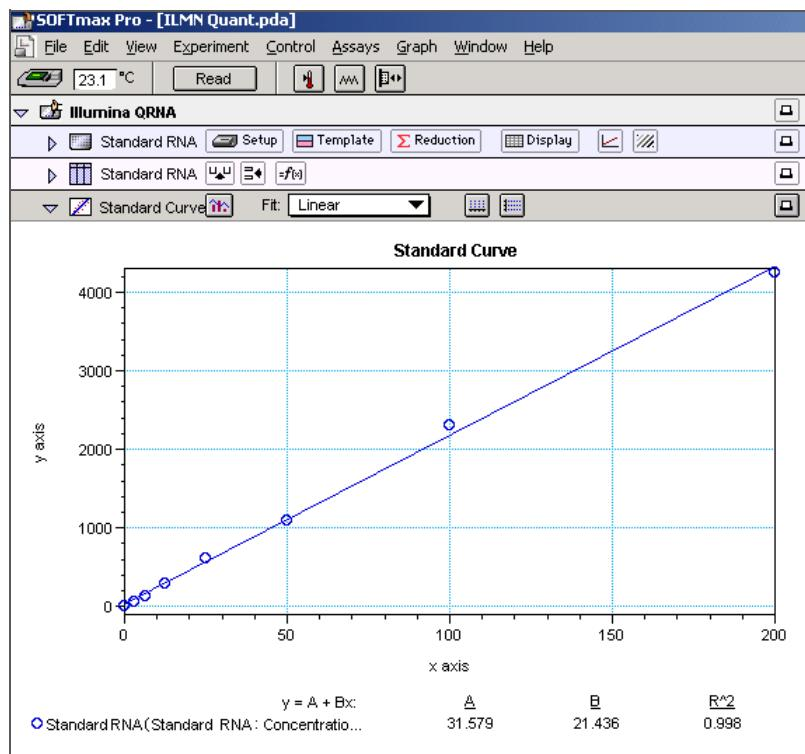

Figure 17 View Standard Curve
9. Click the blue arrow next to **Standard Curve** to view the standard curve graph (Figure 17).